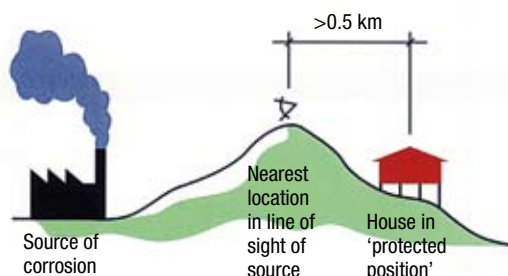
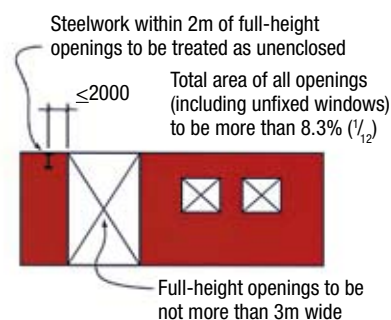

Figure 1 Definition of a 'protected position'
Figure 2 Maximum extent of openings in masonry walls for steelwork to be deemed to be 'enclosed'
For three sources of corrosion, and depending on whether the house is in an exposed or protected position, a level of corrosion potential may be established based on the distance of the house from the source of corrosion Figure 1, Table 1. The degree of enclosure of the supporting steelwork must then be considered. If it is enclosed by masonry walls (which include provision for sub-floor ventilation) with a maximum size/area of openings as shown in Figure 2, it is deemed to be 'enclosed'. Otherwise it is deemed to be 'unenclosed'.
*A protected position is one that is more than 0.5 km from the nearest location that is in line of sight of the source of corrosion Figure 1.